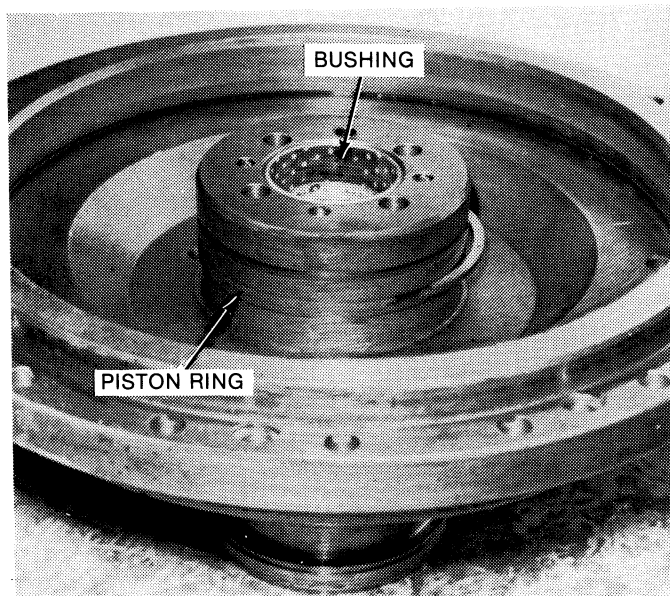

Figure 6-19. Front Side of Clutch Cylinder with Piston Removed.
20. Remove the piston rings from the front of the clutch piston hubs. See Figure 6-19.